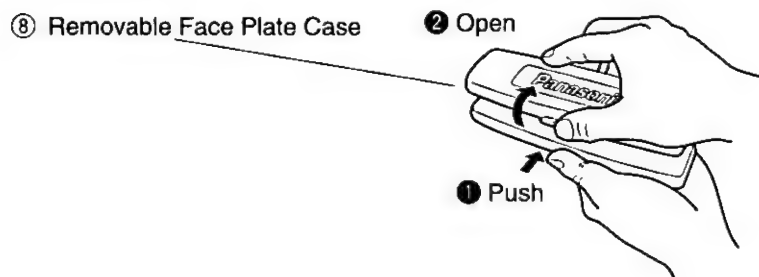

Fig.3
- c) Remove the unit pulling with both hands. (Fig. 3)
- ④ As shown in Fig.3, gently push the lower side of the case and open its cover. Keep the removable face plate in the case. Then, you can bring the plate safely.